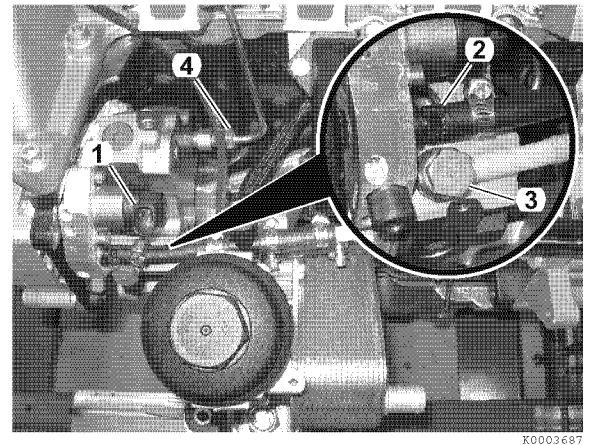

Figure 6-35
7. Install high-pressure line and tighten union nuts (4, **Figure 6-35**) using special tool OEM No. 13 5 020 to 23 N·m (204 in.-lb). *See Remove and Install High-Pressure Fuel Lines on page 6-14.*
8. Connect fuel return line and banjo bolt (3, **Figure 6-35**) with new seal washers.
9. Connect fuel supply line (2, **Figure 6-35**).
10. Connect electrical connector to fuel volume regulator (1, **Figure 6-35**).